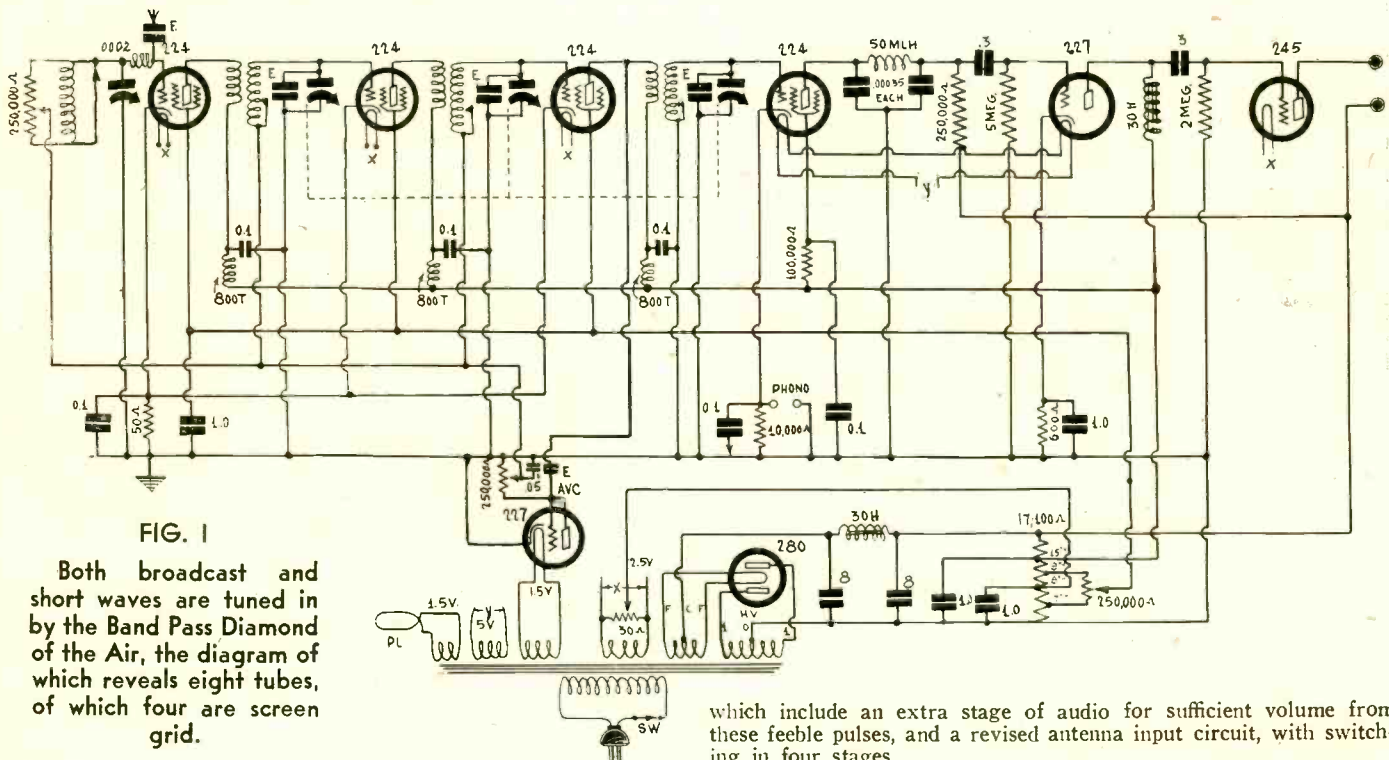

FIG. 1
**T**HERE is a surprise in the diagram of the Band Pass Filter Diamond of the Air, shown in Fig. 1, and that is the inclusion of a short-wave feature. The circuit has been shown for broadcast use, but is presented herewith with such changes as necessary to bring in short waves.